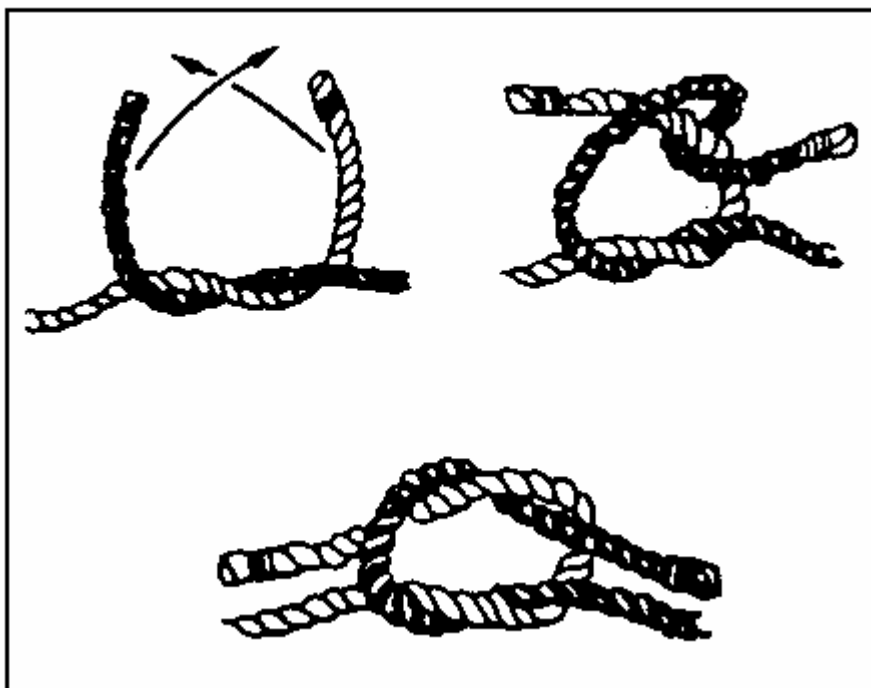

Figure 052-200-1075-1
1. Tie a square knot. Use the square knot to tie together two dry ropes of the same thickness. Make the first crossing left over right or right over left. Tie the second crossing opposite the first (Figure 052-200-1075-1).